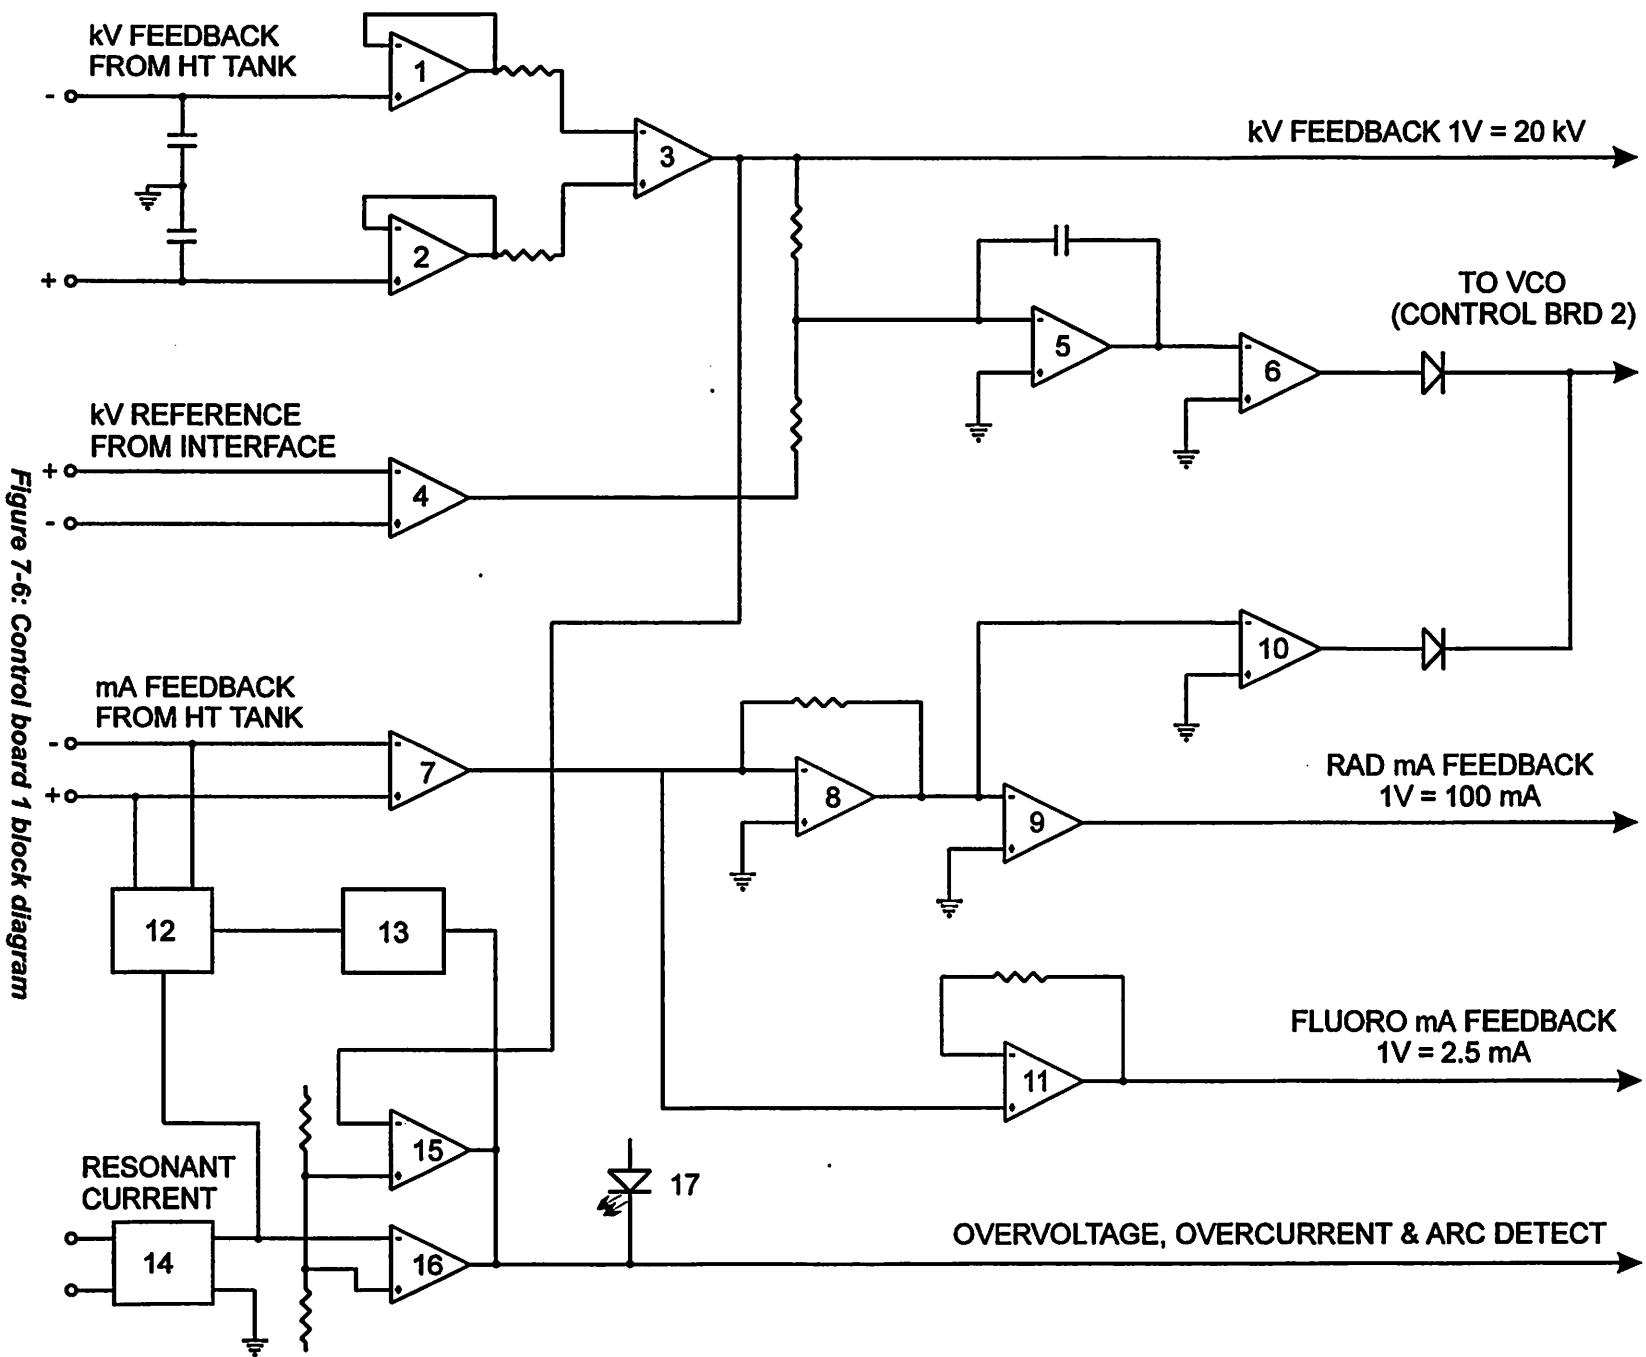

Figure 7-6: Control board 1 block diagram
Refer to figure 7-6 for control board 1 operation. This is a block diagram of a typical control board 1, this may be used in conjunction with the detailed control board 1 schematic for your generator in chapter 9 if desired. Please note that the reference designations used in this section apply to figure 7-6 only.
The differential kV feedback voltage from the HT tank is brought to control board 1 to be processed. This feedback voltage is first brought to a compensation network consisting of compensation capacitors and switches which are factory adjusted to match control board 1 to the HT tank. The compensation network may need re-adjusting if either the HT tank is replaced, or if control board 1 is replaced. The compensation network is depicted by the two capacitors in front of IC's 1 and 2 in figure 7-6.
Protection against output voltage arcing is provided by a sensing circuit which monitors the mA feedback current. This circuit is represented by item 12 in figure 7-6 and consists of very fast transistor switches that trigger comparator IC 16 in case of output arcs. The output of IC 15 or IC 16 is driven low by the occurrence of a fault, and latched low by latch circuit 13. This prevents the output of the two fault detector IC's from spontaneously returning to a normal state.